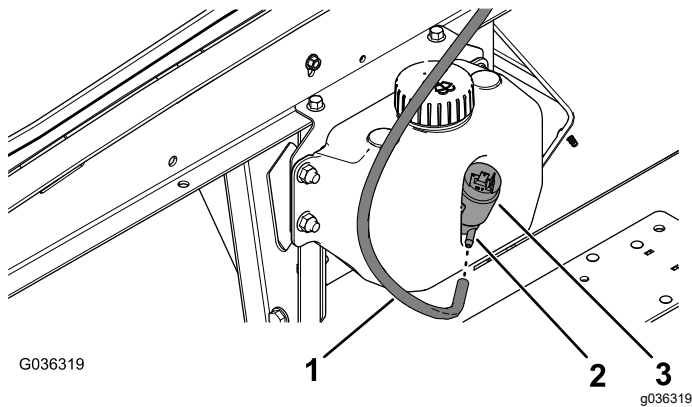

Figure 8
1. At the washer-fluid tank, align the end of the hose to the barbed fitting in the washer pump (Figure 8).
2. Push the hose onto the fitting until the hose fully seats onto the fitting (Figure 8).